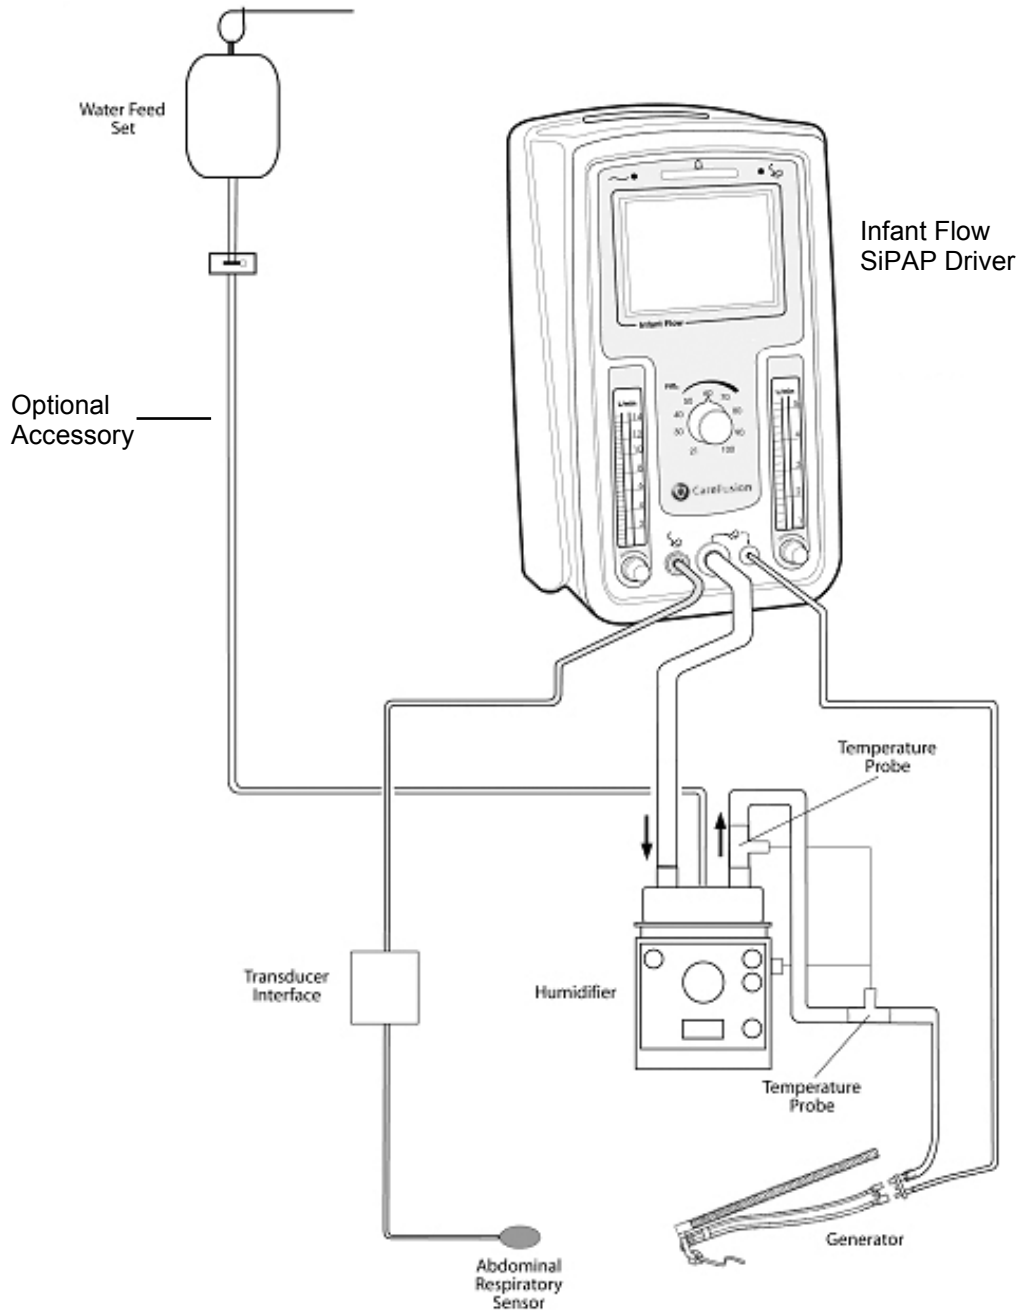

Figure 3 Driver assembled with patient circuit and /humidifier
1. Connect the Transducer Assembly to the front panel of the driver (Figure 3)
1. Have the patient circuit and generator assembled as shown in Figure 3.
1. Make appropriate connections for air and oxygen gas supply. Connect power cord to appropriate AC outlet. Attach patient circuit, generator and patient interface (mask or prong) as shown in Figure 3. Occlude the opening to the patient.